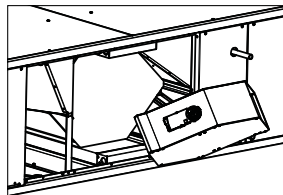

Fig. 3
5. Turn the bypass according to image (fig.3 and 4).